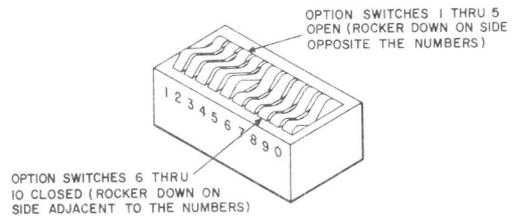

Fig. 3—Option Switch
2.06 Installer options are accomplished by setting the positions of individual rockers of four multiple section rocker assemblies (Fig. 3), strapping plugs, and a screw switch on the backplane. Refer to Section 592-034-200 for instructions on selecting and installing options.